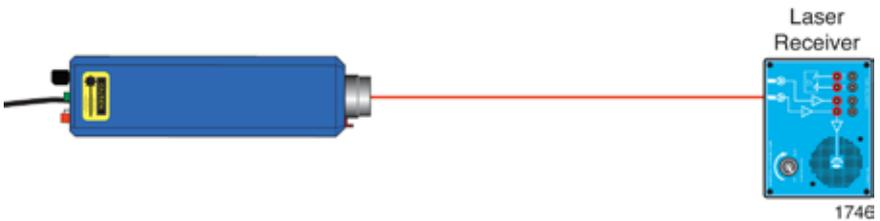

Figure 3. Laser and Universal Laser Receiver alignment.
18. Align the laser receiver and laser so they face each other as shown in Figure 3.
- Is the laser beam illuminating the correct detector? (See Figure 3.)